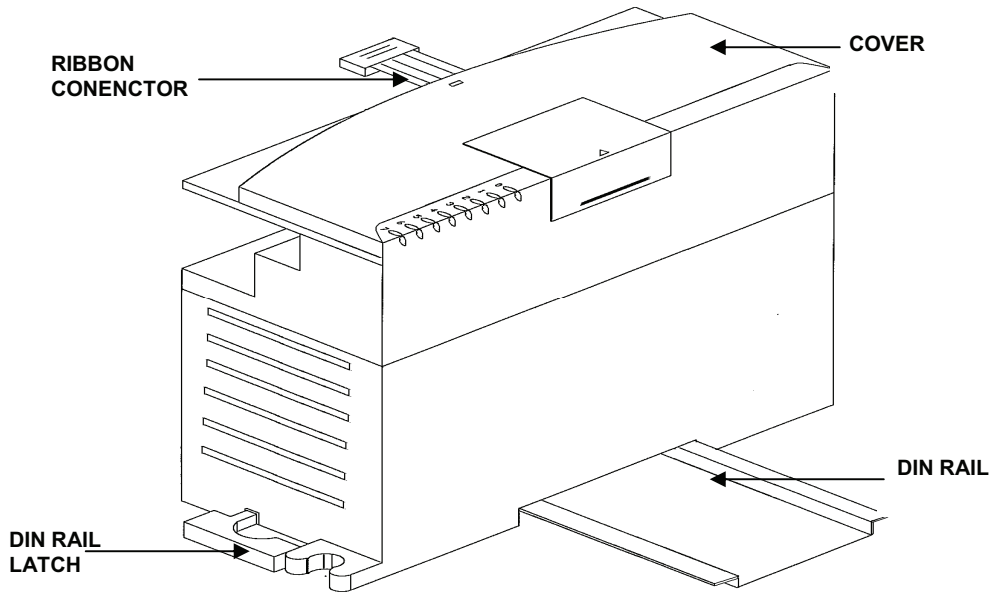

Figure 6. PLC Output Card.
1. Open cover and make note of number and location of all wires. See Figure 6.